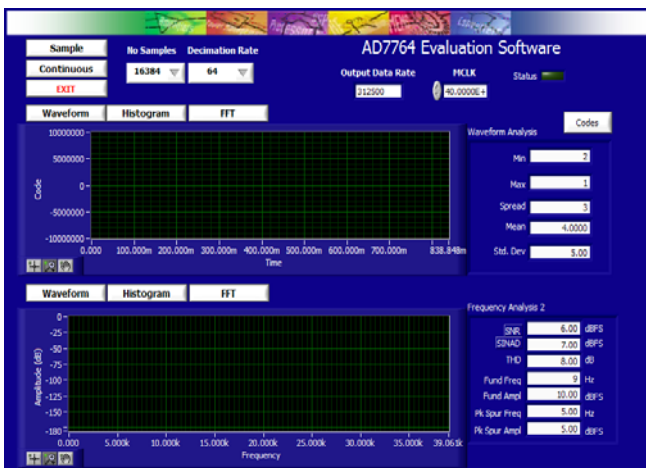

Figure 15. EVAL-AD7764/AD7765EBZ Evaluation Software Front Panel Features
3. The user can specify the decimation rate, and number of samples to be acquired by using the drop-down menus on the software front panel circled in red in Figure 15. The software allows the number of samples specified by the user samples to be viewed as a waveform, histogram, or FFT.